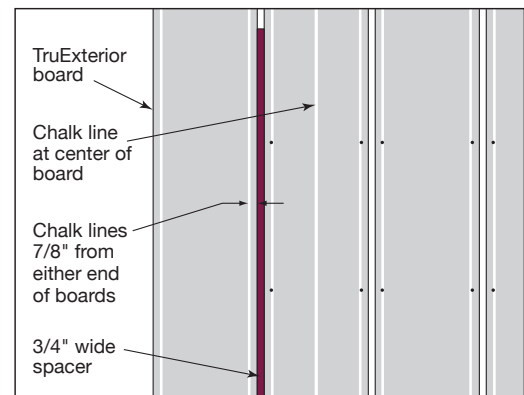

Fig. 40
- Mark the center point of the board at the top and bottom (**Fig. 40**)
- Using the plumb line on the wall, line up the middle of the board with the middle of the wall and secure it with fasteners (**Fig. 40**)
- Use a 3/4" wide spacer between boards as you continue across the wall, checking for plumb along the way (**Fig. 40**)